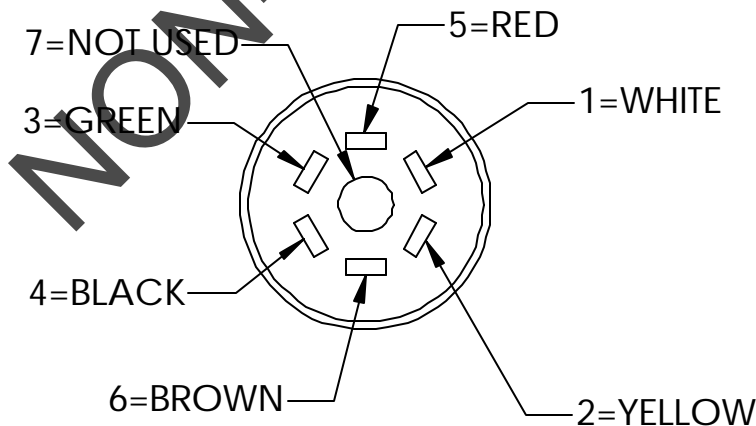

Figure 7 – Wire Connections
9. If necessary, trim cable to appropriate length. Assemble the connector as shown in Figure 7 and mount connector on bracket.